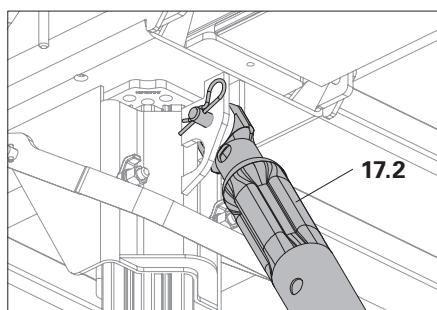
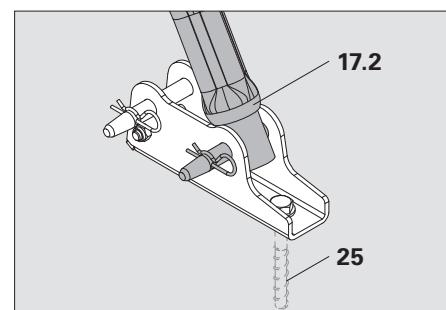

Fig. A4.04a
Fig. A4.04b
- Push-Pull Prop RS (17.2), tension- and compression-proof, with Bolt Ø 16 x 42, Bolt Ø 20 x 140, Cotter Pin 4/1 and Base Plate-2 for RS (18). (Fig. A4.04a + Fig. A4.04b)